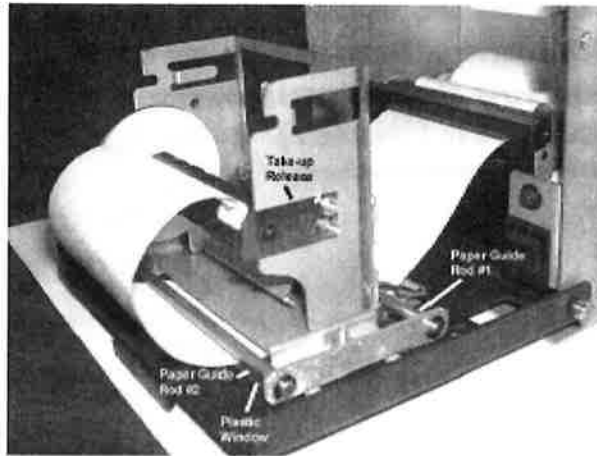

Figure 8-4. Paper Feed Position
6. While holding paper in print mechanism, push front panel switch to **Feed** position (Up). Paper should feed into print mechanism and out the front. Refer to Figure 8-4.